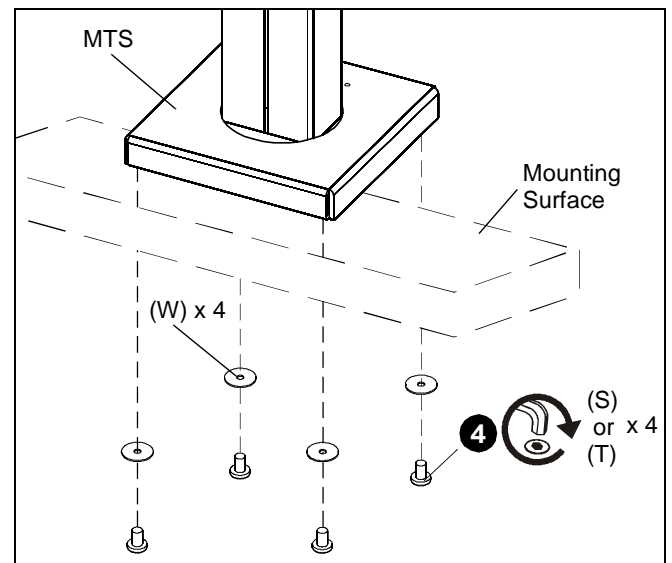

Figure 3
4. Secure MTS post (B) to mounting surface using four 10-24 button head cap screws [(S) - for mounting surfaces up to 3/4" thickness; or (T) - for mounting surfaces from 3/4" to 1-5/8" thickness]. (See Figure 3)